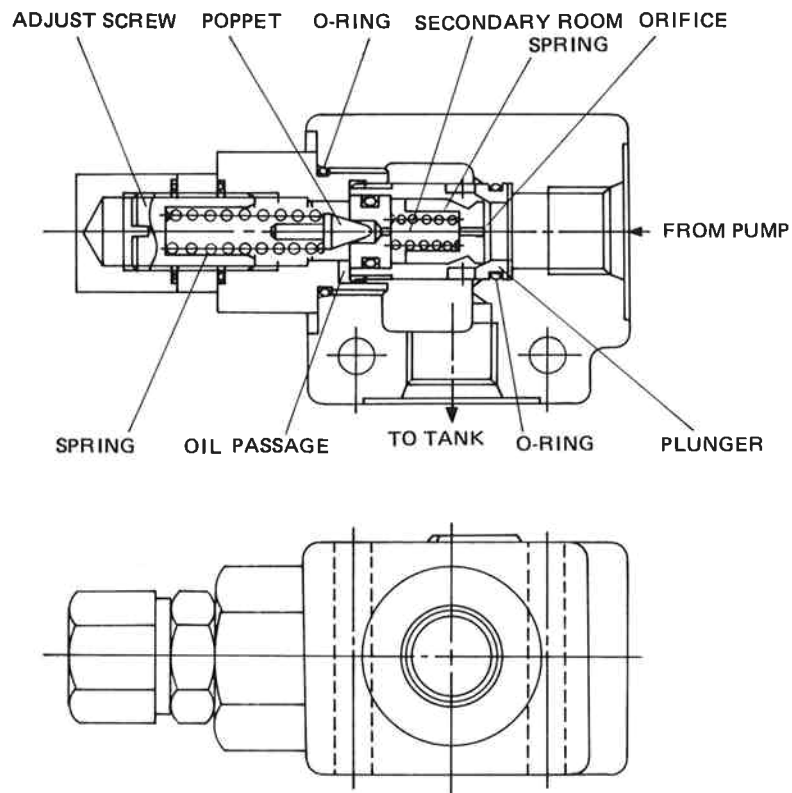

Fig. 8 Relief Valve (I)
6.3.2 FUNCTION (see Fig. 8)
Observe the following precautions in relief valve disassembly and reassembly (see Fig. 8):